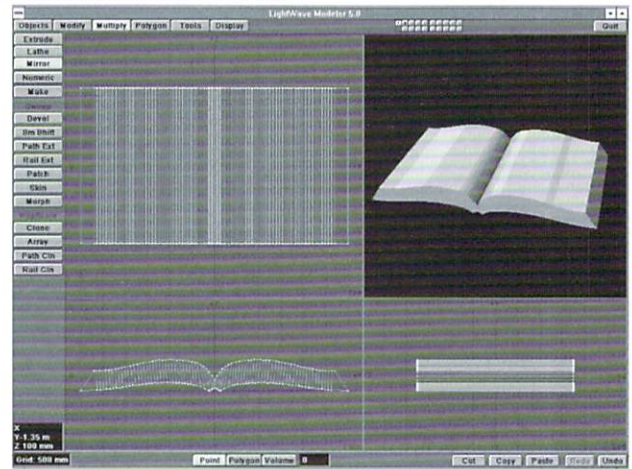

Figure 3
- Lastly, drag the five left top points down to create a stronger curve near the center of the book. Your final curved book page should look like figure 3. Save the object as BOOK_2.LWO.